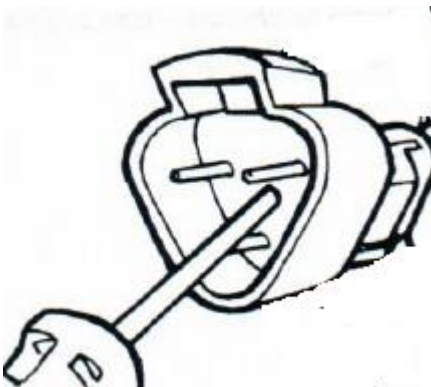

Figure 161
25. To remove the contacts, gently pull the wire backwards while releasing the lock finger by pushing the contact to the center of the connector. Figure 161